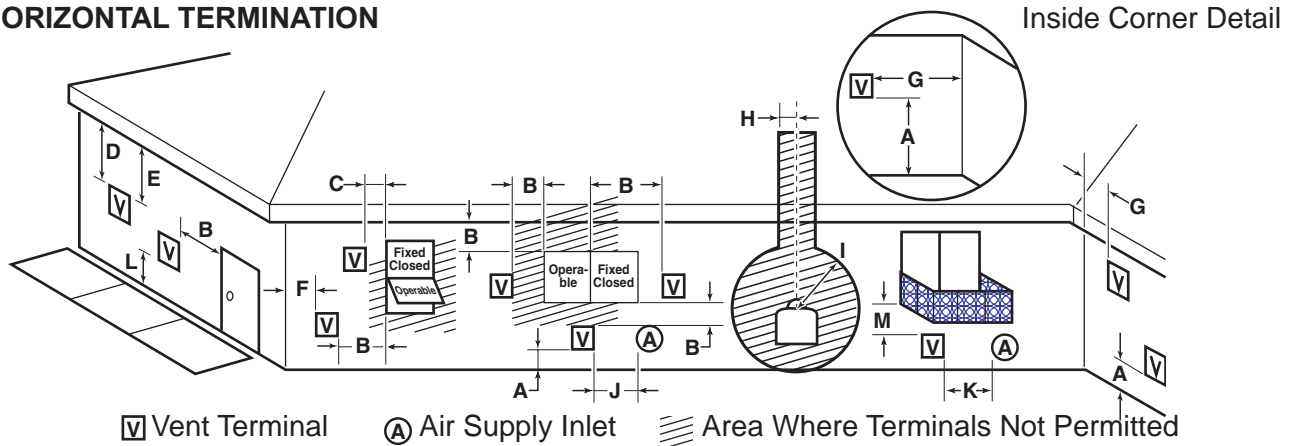

Figure 12 - Horizontal Vent Termination Location
- D = Vertical clearance to ventilated soffit located above the terminal within a horizontal distance of two (2) feet (610mm) from the centerline of the terminal [18" (457mm) minimum].
- F = Clearance to an outside corner. See Figure 12.
- G = Clearance to an inside corner. See Figure 12.
- H = *Not to be installed above a gas meter/regulator assembly within three (3) feet (914mm) horizontally from the centerline of the regulator.